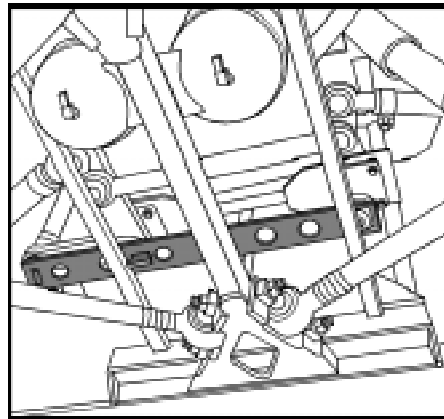

FIGURE 4
3. Straighten up idler arms and bell crank in order to install the appropriate tool to immobilize the pitman arm in front of relay rod (Fig. 4).
Note: Choose immobilizing tool, (screw cap or interference cap), depending of your vehicle installation (Fig. 4)